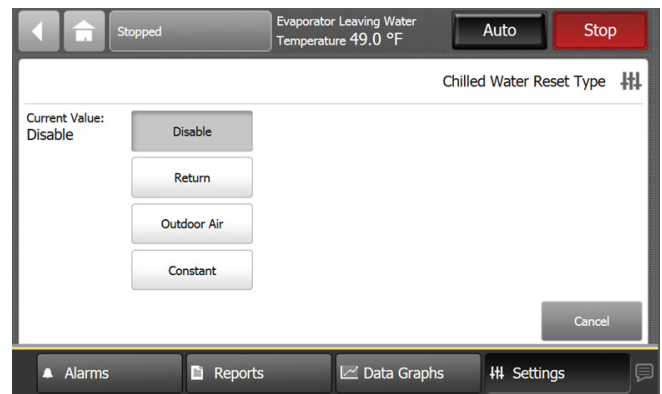

Figure 41. Chilled water reset type screen
- a. For screens with button selections (Figure 41), touch the button that represents the setting you want. The button becomes shaded, and a Save button appears at the bottom of the screen.